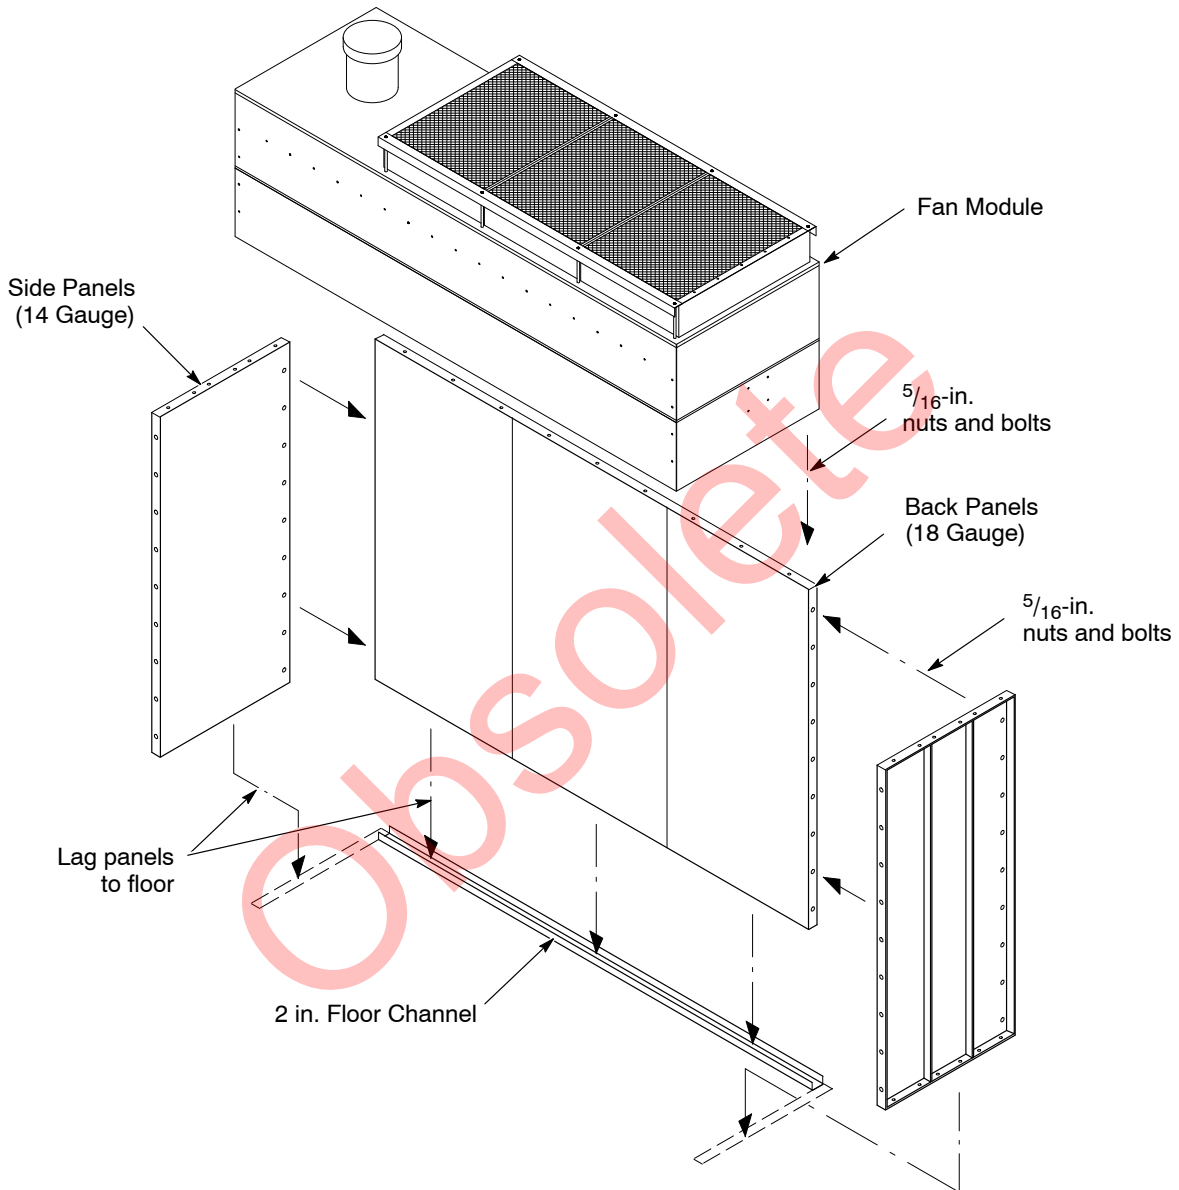

Figure 2 Booth Assembly (8,000 CFM Collector Shown)
See Figure 2 and Table 2 for options.
1. See Figure 2. Mark out the booth position on the floor.